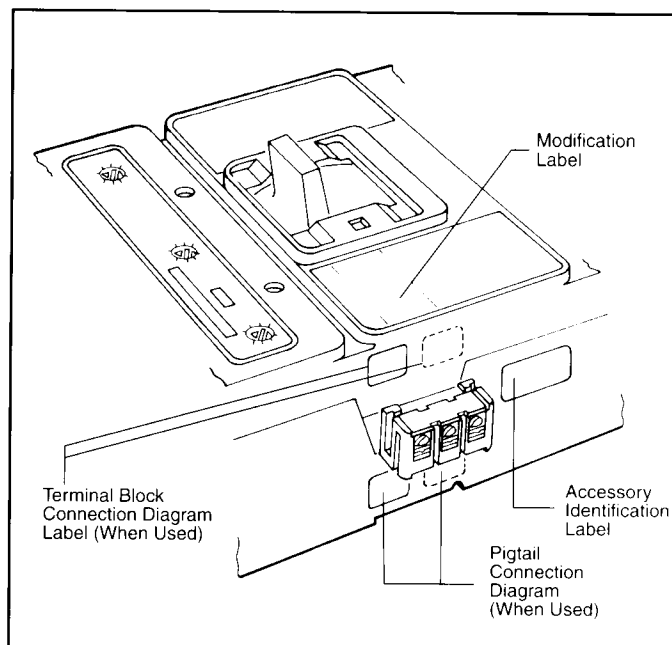

Fig. 2-5 Preferred Mounting Locations for Accessory Nameplate Labels
- 2-9. Place accessory labels (supplied with kit) on circuit breaker. (See Fig. 2-5.)